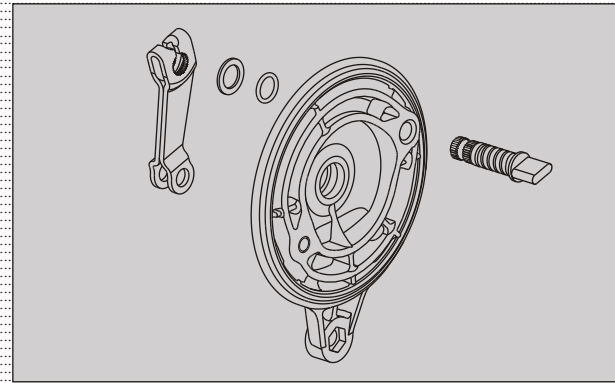

Fig. 6.123
- Pull out lever rear brake cam and remove punched washer and 'O' ring brake cam. (Fig. 6.123)
- Remove cam brake by gently tapping. (Fig. 6.123)